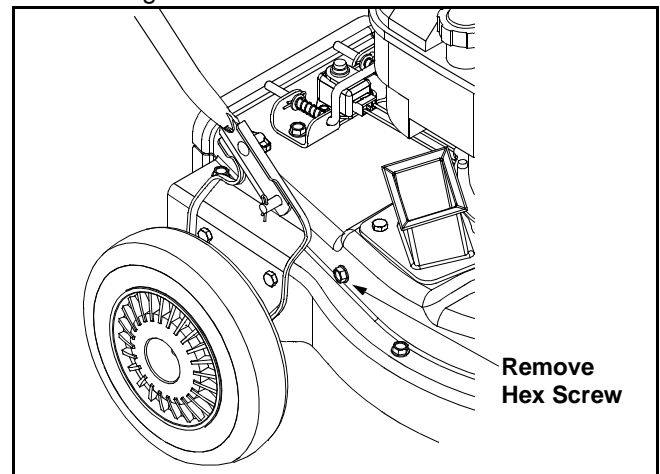

Figure 11
- Remove hex screw on right side of unit that attaches to the flail screen. See Figure 11.